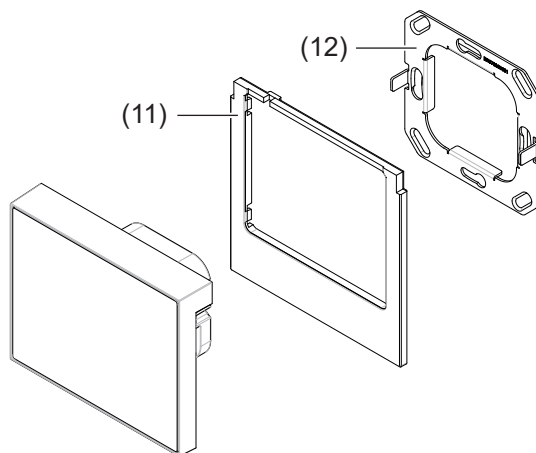

Figure 10: Installation
- Plug the enclosed pre-assembled cable into the jack **Digital/Analog IN** (4).
- Attach the design frame (11) at the back and press over the fixtures (15) until it snaps into place.
- Position the device over the supporting ring in the correct position so that the mounting devices on the device (13) and the pins on the supporting ring (12) are lying on top of each other (Figure 10).
- Slowly press the device onto the support ring (12) until the clamping springs (16) engage in the support ring and the magnetic holding points (14) additionally secure the support ring.